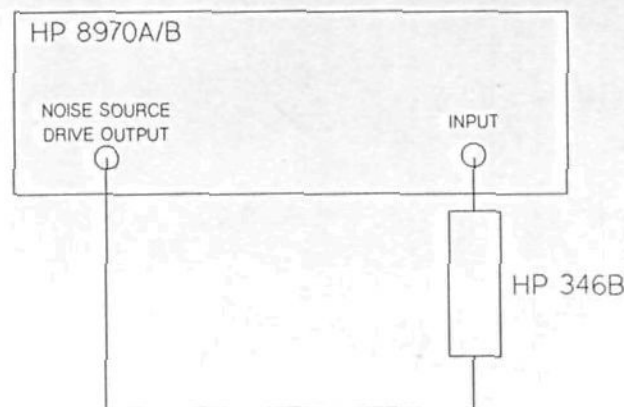

Figure 3-1. Gain/Noise Figure Cal
1. Connect the equipment up as shown in figure 3-1.